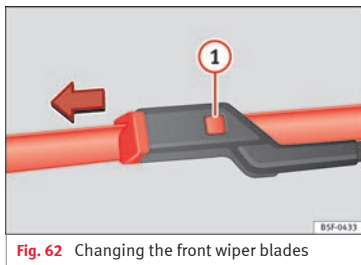

Fig. 62 Changing the front wiper blades
- Hold down the release button »  Fig. 62  while gently pulling the blade in the direction of the arrow.